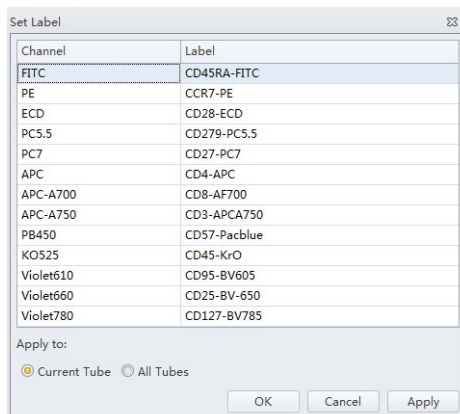

Figure 19. Dialogue box for selecting the labels used in the protocol.
3. Select “Set Label” (Figure 19) from the Settings menu, and enter the antibodies used for staining as label description.